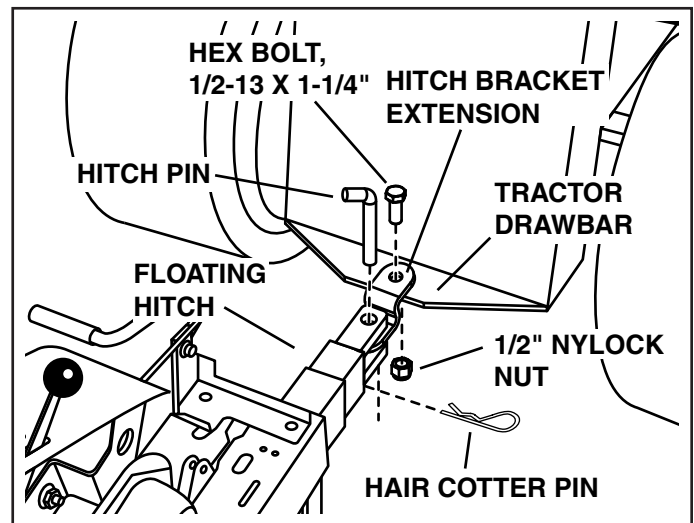

FIGURE 6
(See Figure 6)
- Hitch bracket extension can be attached as shown in figure 6 or turned upside down for tractors with lower drawbars.